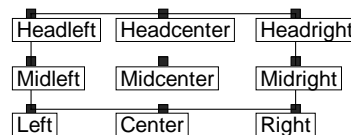

Figure 2-2. Text anchor positions—values for the **AN** parameter.
- Use the **AN** (*textanchor*) parameter to specify the position of the anchor point relative to the text. There are nine possible anchor positions, as shown in Figure 2-2.